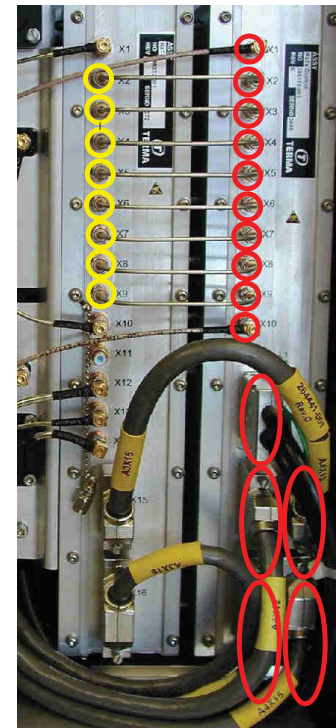

Fig. 10.29 Connectors
- 3 On RxTx Control, loosen all SMA connectors (X1 - X10) using tools 13/14, four D-Sub connectors (X12, X13, X14, X15) using tool 11 and one PCIe connector (X11) as indicated on the RxTx Control module with red circles and ellipses - see Fig. 10.29 \(p. 149\).
- 4 On the RxTx to the left of the RxTx Control, loosen SMA connectors X2 - X9 to remove or turn the semi-rigid cables so the RxTx Control can be pulled out without any obstructions - use tools 13/14. Indicated with yellow circles in Fig. 10.29 \(p. 149\).